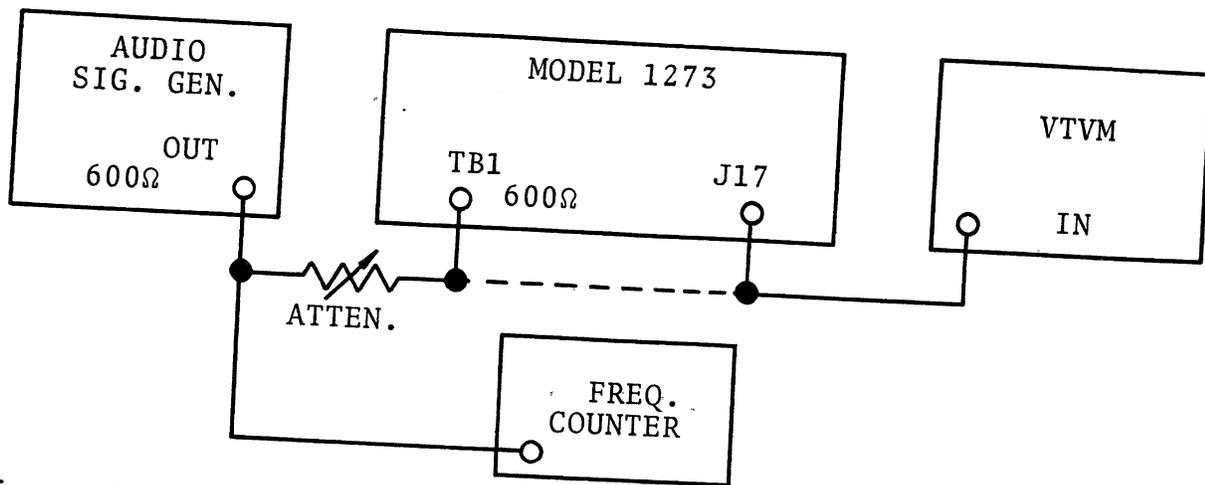

Figure 5-1. Test Setup, Mark/Space Bandpass Filter Operational Check
1. Set up the equipment as shown in Figure 5-1, with the signal generator connected to pins 12 and 13 of TBI and the VTVM connected as shown by the dotted line.
1. Set up the equipment as shown in Figure 5-1, with the signal generator connected to pins 12 and 13 of TB1 and the VTVM connected as shown by the dotted line.
1. Set up the equipment as shown in Figure 5-1, with the signal generator connected to pins 12 and 13 of TB1 and the VTVM connected as shown by the dotted line (the LIMIT MODE pushbutton should be in the out position).
4. Reconnect the VTVM as indicated by the dotted line in Figure 5-1 and set the signal generator to produce a mark tone at a level of -10 dbm.
1. Set up the equipment as shown in Figure 5-1.